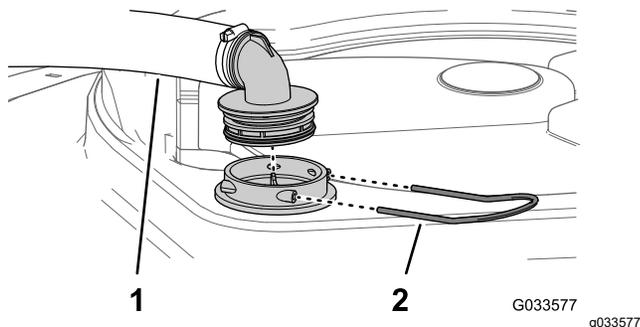

Figure 28
- At the top of the sprayer tank, remove the retainer that secures the hose fitting attached to the large hose from the filter housing (Figure 28).
- Remove the hose and hose fitting from the filter housing (Figure 28).